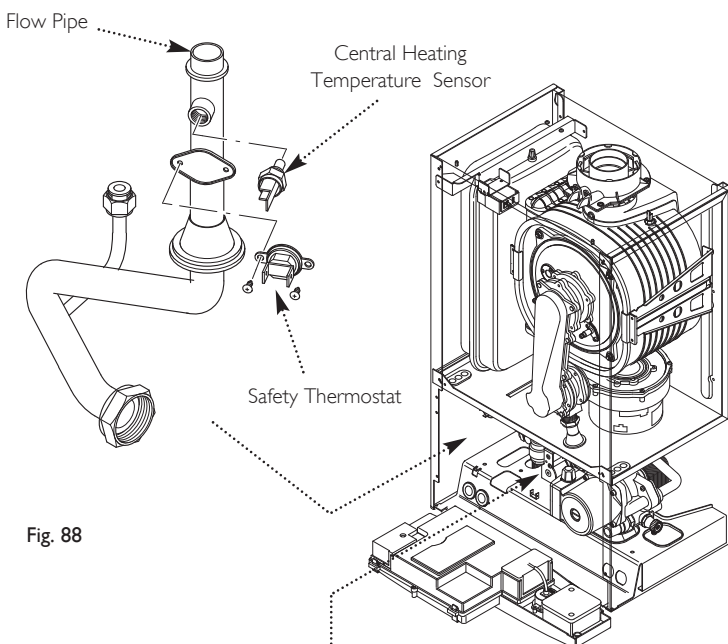

Fig. 88
14.10 Central Heating Temperature Sensor (NTC) (Fig. 88)
14.11 Safety Thermostat (Fig. 88)